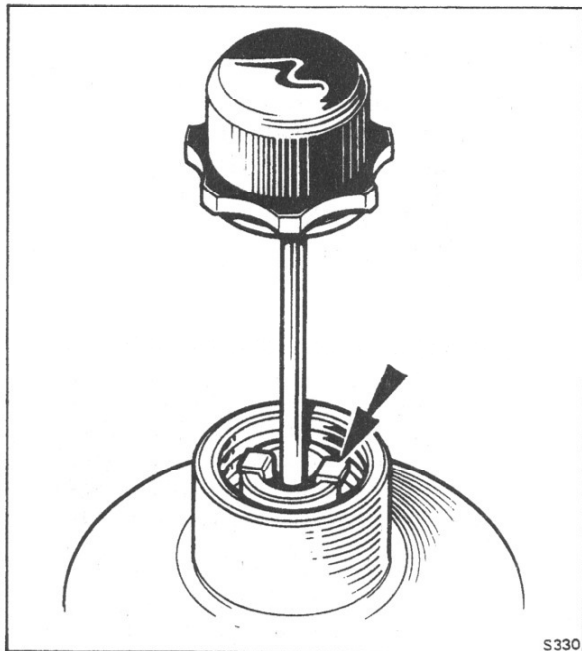

Fig. K83 Position of damper retainer
Before assembly ensure that the damper retainer (piston ball race clip) is refitted by pressing it fully into the piston rod (see Fig. K83).
1. Unscrew the damper cap and carefully raise the damper until the damper, **together with the air valve piston**, reach the top of their travel. Ensure that the retainer is not displaced from its position in the piston rod (see Fig. K83).
4. Check that the damper retainer (piston ball race clip) is still in its correct position in the piston rod as shown in Figure K83, then lower the damper and screw the damper cap firmly into position.
are pressed fully into the piston rod (see Fig. K83) using tool RH 9086.